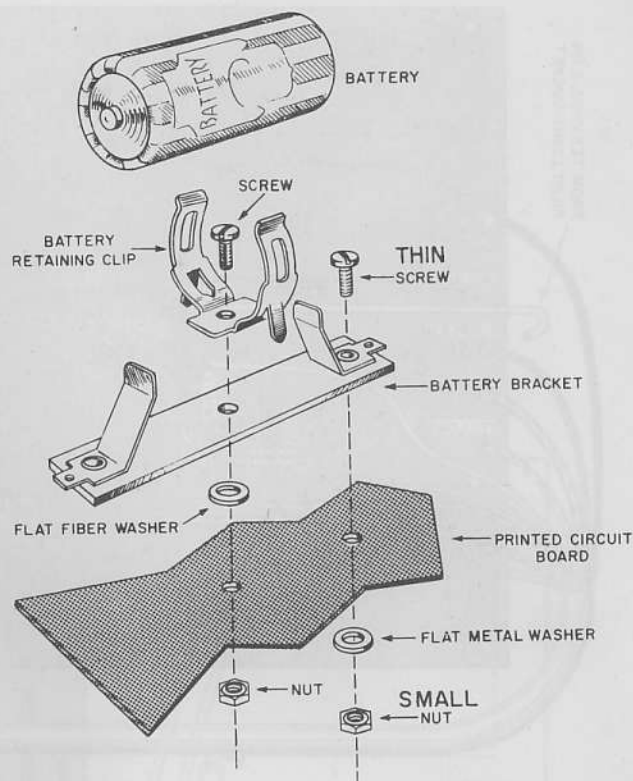

FIGURE 12. MOUNTING THE BATTERY
- () Mount the battery bracket as shown in Figure 12. Insert a machine screw through the battery retaining clip through the center hole in the battery bracket, through a flat fiber washer, and through the hole in the printed circuit board. Tighten a nut onto the screw. Use the thin screw through the hole in the end of the bracket near T-1, and through the circuit board. Place a small flat metal washer over the screw on the printed wiring side of the board and tighten a nut over the screw.